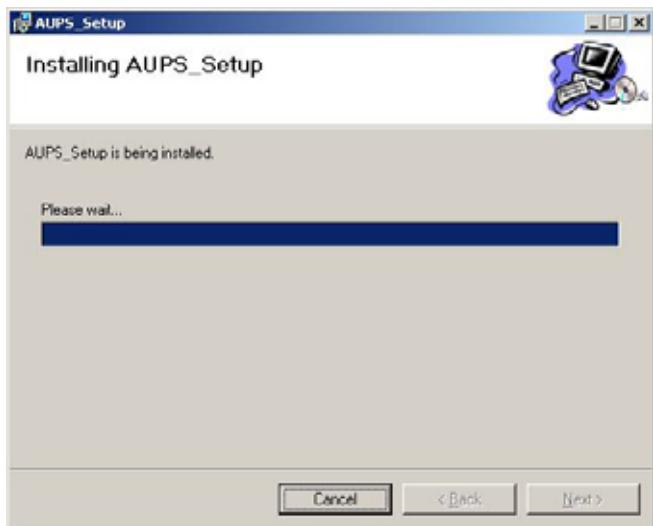

Figure 8-4: Installing AUPS
Step 5: Click **NEXT** to continue. The Installing AUPS_Setup screen appears as the program is installed (Figure 8-4).